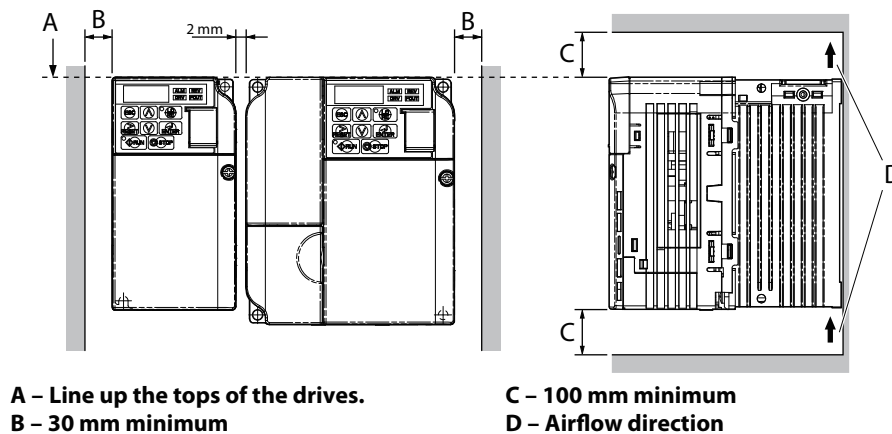

**Figure 2.2 Correct Installation Spacing**
**Figure 2.2** shows the required installation spacing to maintain sufficient space for airflow and wiring. Install the heatsink against a closed surface to avoid diverting cooling air around the heatsink.
When installing multiple drives into the same enclosure panel, mount the drives according to **Figure 2.2**. When mounting drives with a minimum side-by-side clearance of 2 mm according to **Figure 2.3**, derating must be considered and parameter L8-35 must be set. *Refer to Parameter List on page 321.*